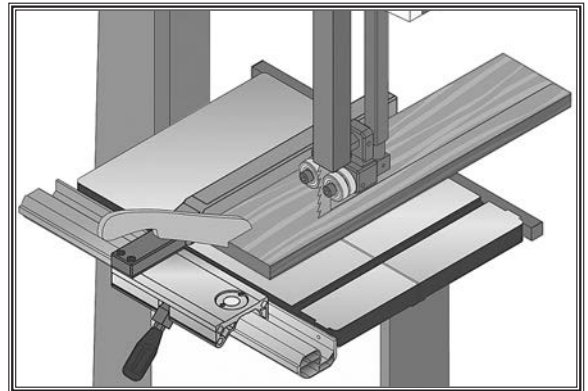

Figure 40. Example of a ripping operation.
3. After all safety precautions have been met, turn bandsaw **ON** and wait for it to come to full speed. Slowly feed workpiece into blade until blade is completely through workpiece. **Figure 40** shows an example of a ripping operation.